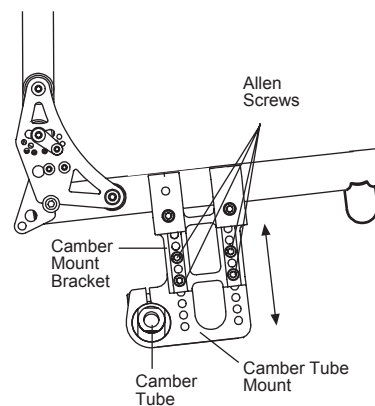

Figure 62
1. Note the holes used to secure the camber tube mount to the camber mount bracket. See Figure 62.